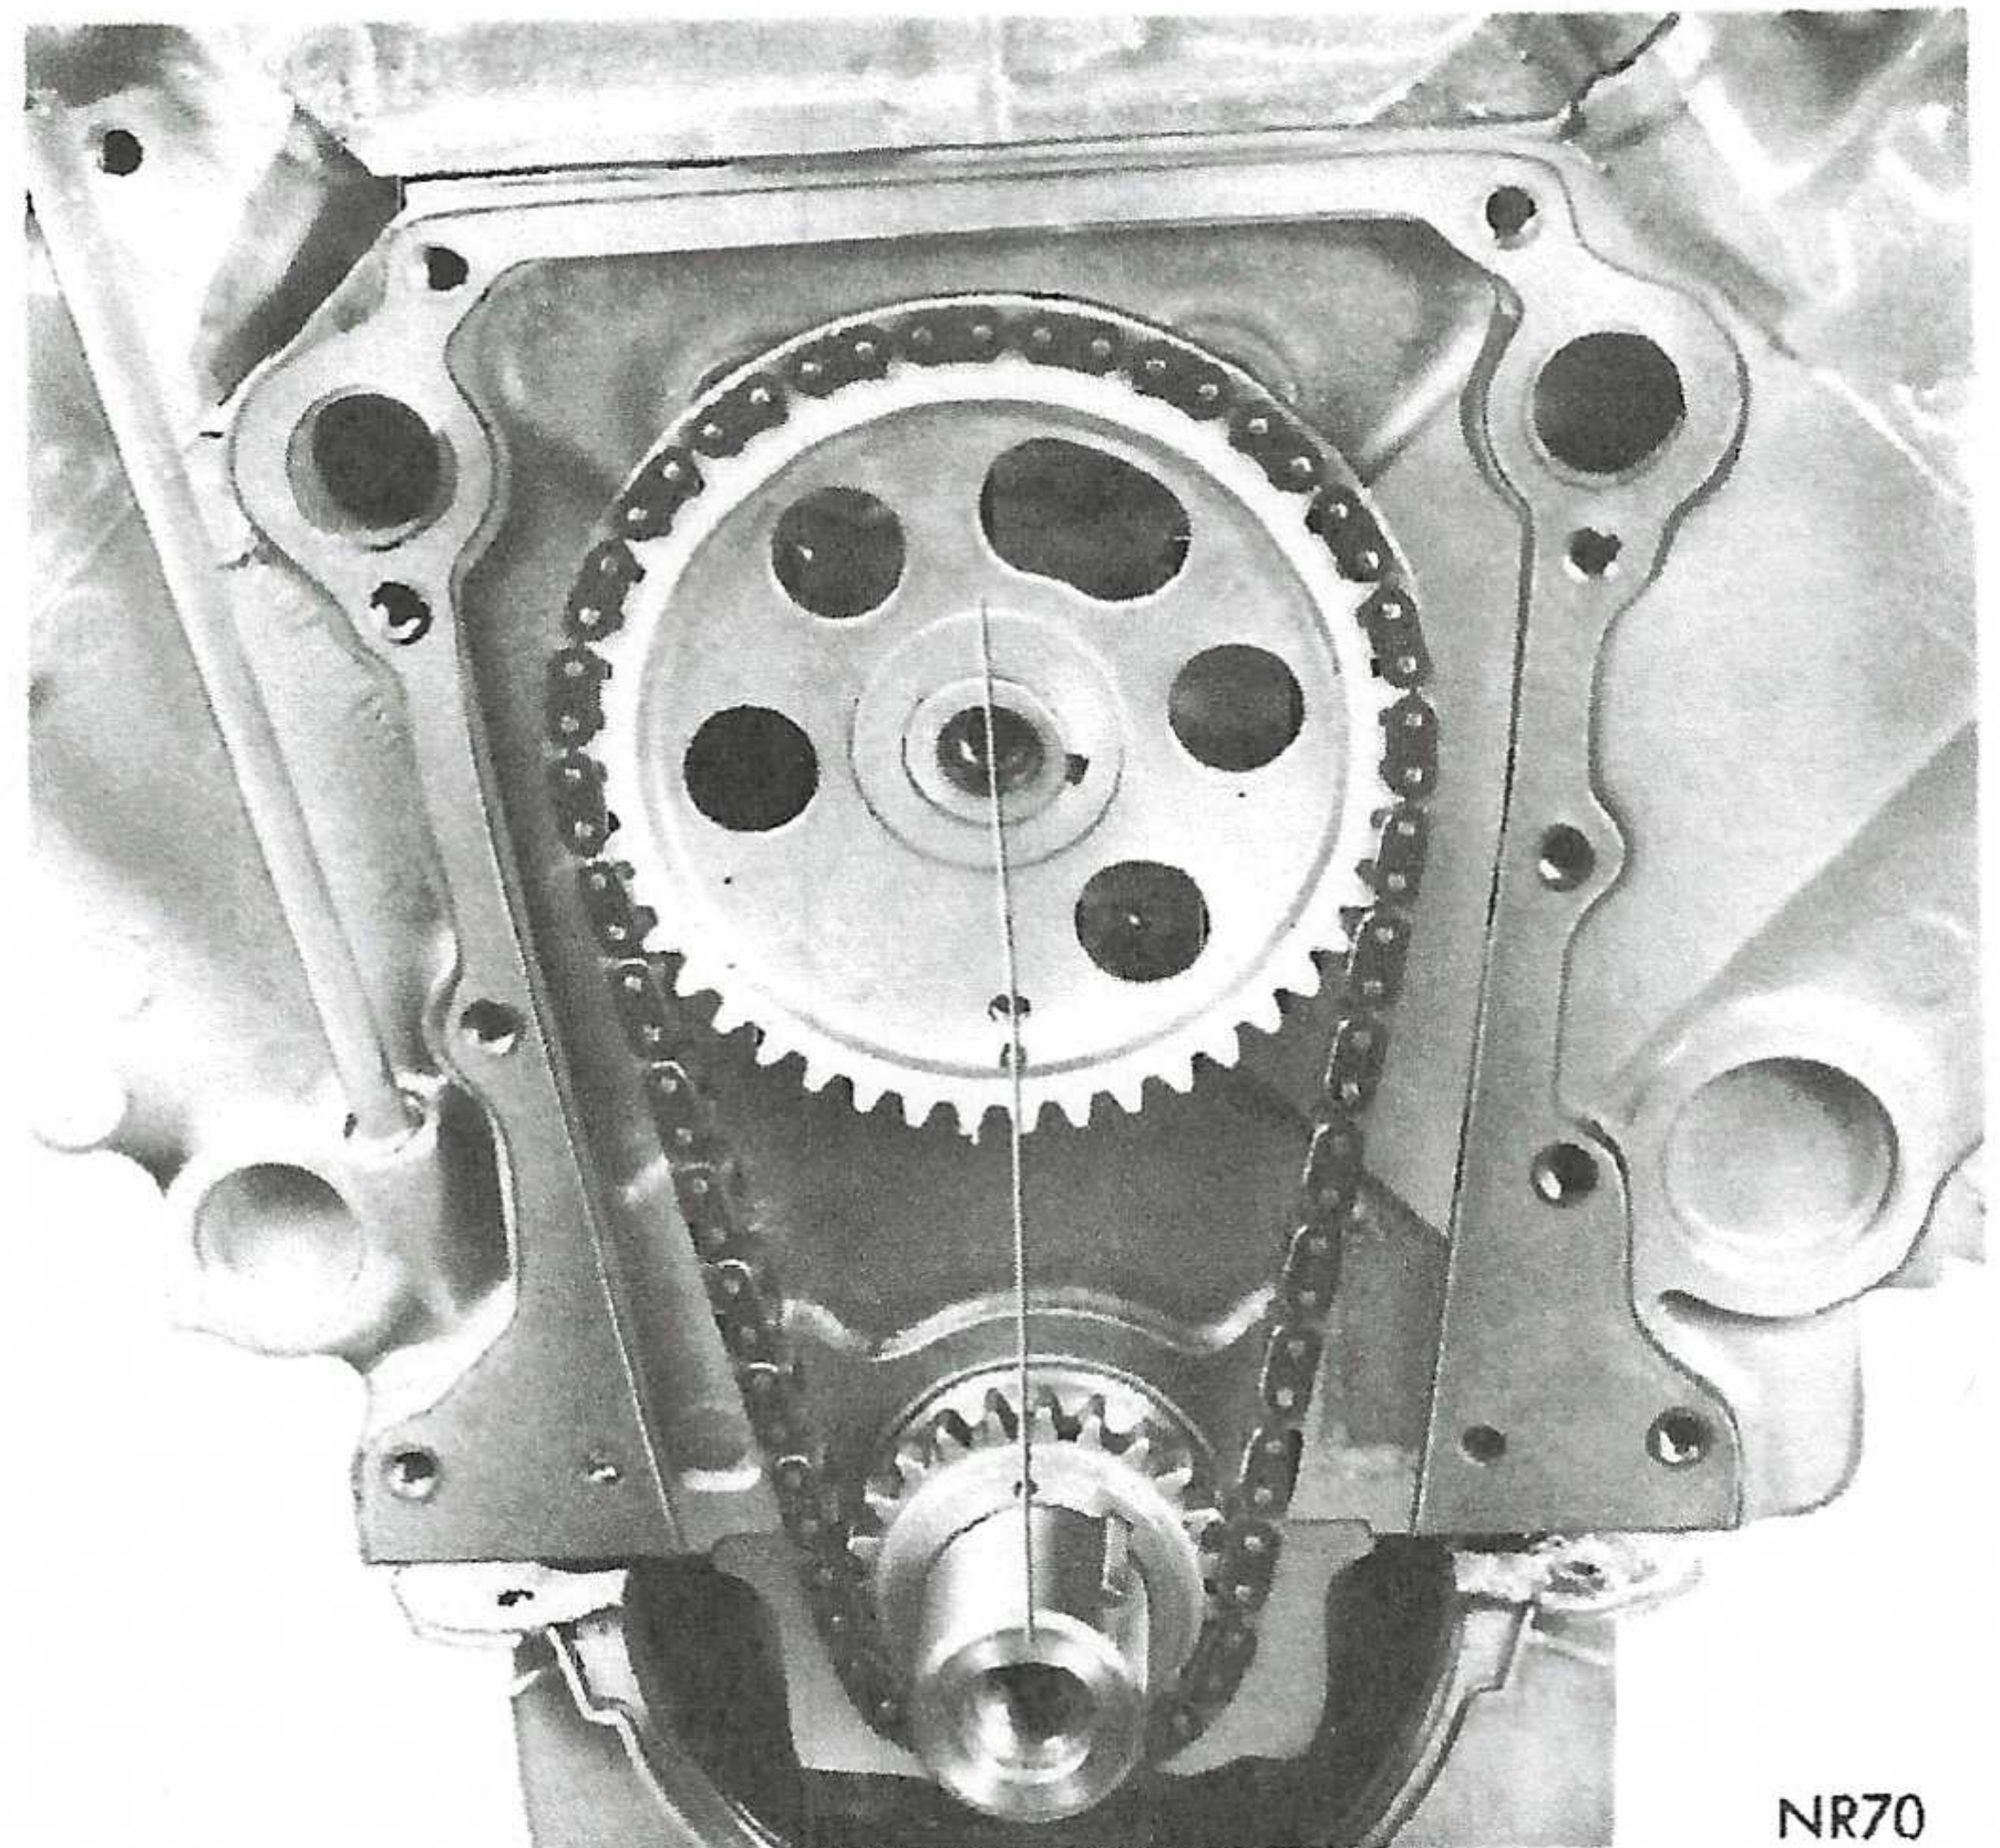

Fig. 26—Alignment of Timing Marks
(7) Place both camshaft sprocket and crankshaft sprocket on the bench with timing marks on exact imaginary center line through both camshaft and crankshaft bores.
(8) Place timing chain around both sprockets.
(9) Turn crankshaft and camshaft to line up with keyway location in crankshaft sprocket and in camshaft sprocket.
(10) Lift sprockets and chain (keep sprockets tight against the chain in position as described).
(11) Slide both sprockets evenly over their respective shafts and use a straight edge to check alignment of timing marks (Fig. 26).
(12) Install the fuel pump eccentric, cup washer, and camshaft bolt. Tighten bolt to 35 foot-pounds.
(13) Check camshaft for .002 to .006 inch end play with a new thrust plate and up to .010 inch end play